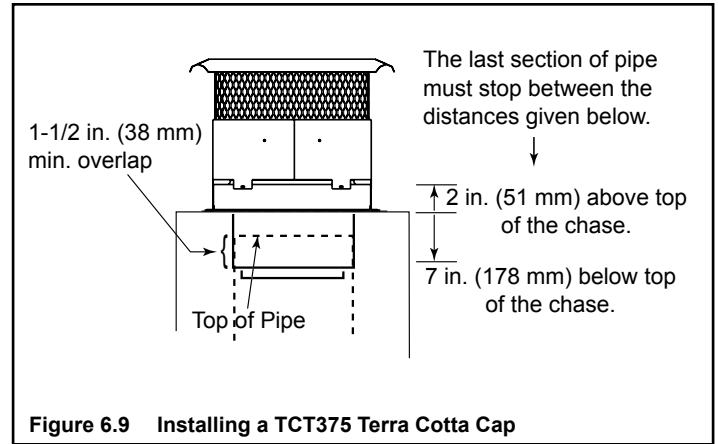

Figure 6.9 Installing a TCT375 Terra Cotta Cap
- For installations utilizing a TCT375 Terra Cotta Cap the last chimney section must be between 7 in. (178 mm) below the chase top and 2 in. (51 mm) above. See Figure 6.9.